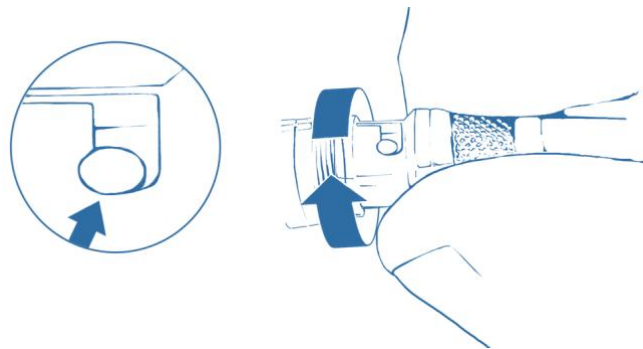

Figure 25 – Twisting the connector and securing it in position
- d. On Fiber channel 0 both the TX and RX fiber cables must be connected. On channels 1 through 3, only one fiber cable should be connected. This cable is connected between TX output (Marked with TX or Arrow outwards the SFP+) on the camera and RX input (Marked with RX or Arrow inwards the SFP+) on the Frame Grabber, as shown in figure 25 (a).
3. Insert the fiber cable into the module, as shown in figure 25 (b).
3. Open the bale clasp on the SFP+ module with your index finger, or a small flat-blade screwdriver, in a downward direction, as shown in figure 25.